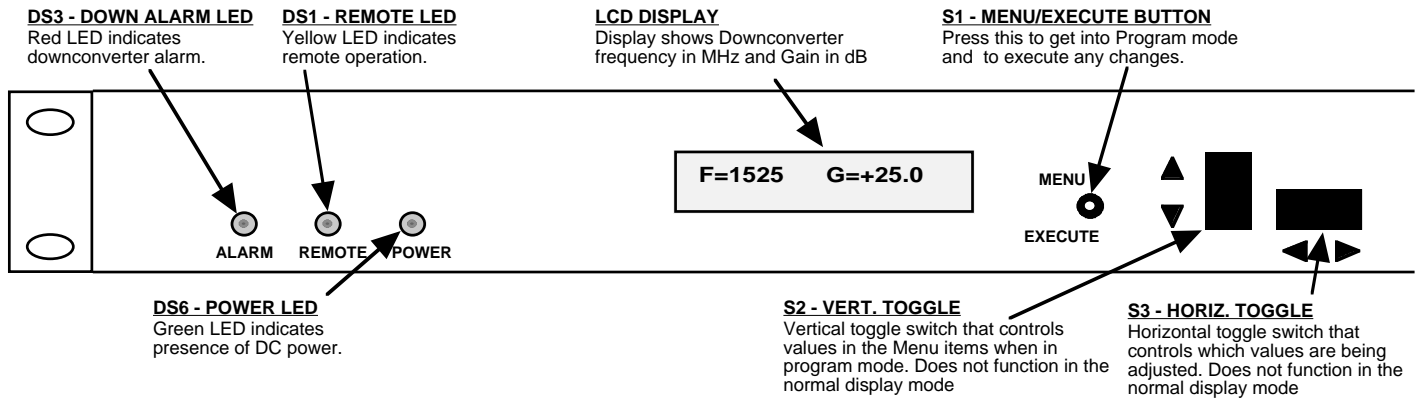

FIGURE 2.3 2016-03A Front Panel Controls and Indicators
6. Be sure DS6 (green, DC Power) is on and DS3 (red, Alarm) is off (Figure 2.3).
Alarm indications appear on the LEDs (see figure 2.3).